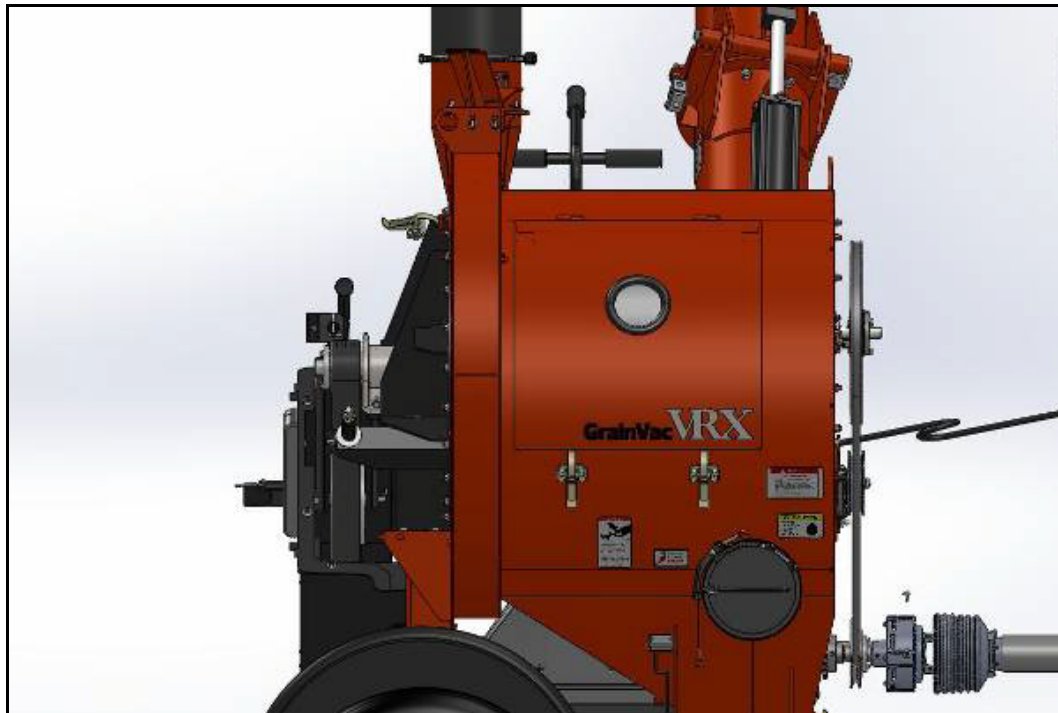

Figure 5.8 Belt Pulley Alignment
1. Check the rotor drive belt idler pulley alignment by looking from the inlet side of the GrainVac (see Figure 5.8). Rotate the assembly by hand turning clockwise looking from the rear. Check to see if the belt runs straight as it passes over the idler or if it is pulled to either side. The edge of the belt, *where it passes over the idler pulley*, should be straight and parallel to the edge of the belt on the tight side of the belt.